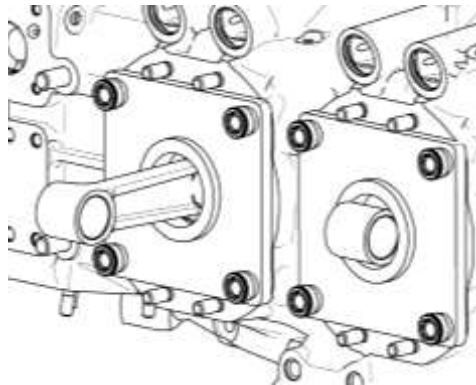

Figure 21
C. Install Torque Hold-Down Plates (ST-222) or equivalent as shown in Figure 21.